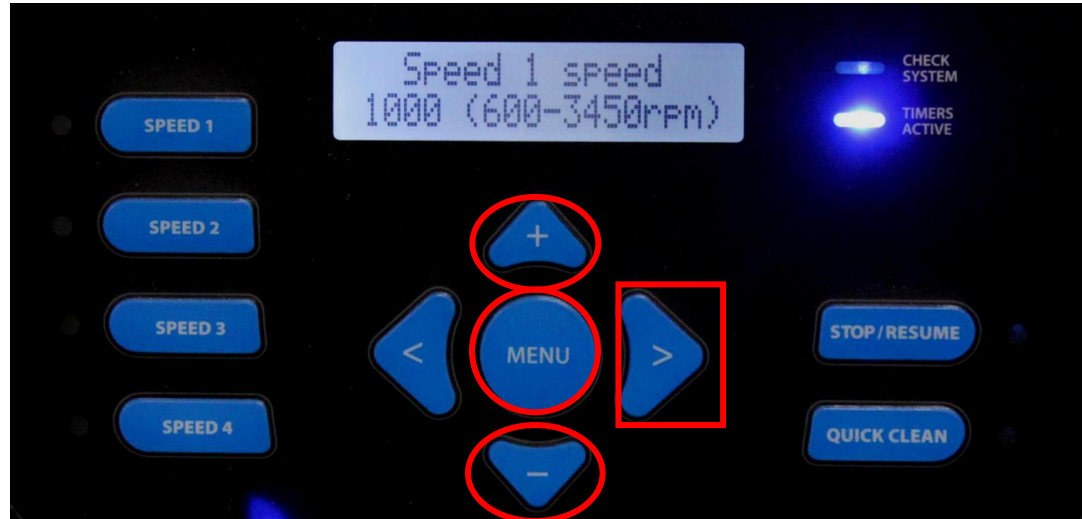

Figure 52
4. While in this screen you can set the speed from 600 RPM (17%) to 3450 RPM (100%) by pressing the  &  button (fig 52). Press the  button to continue.